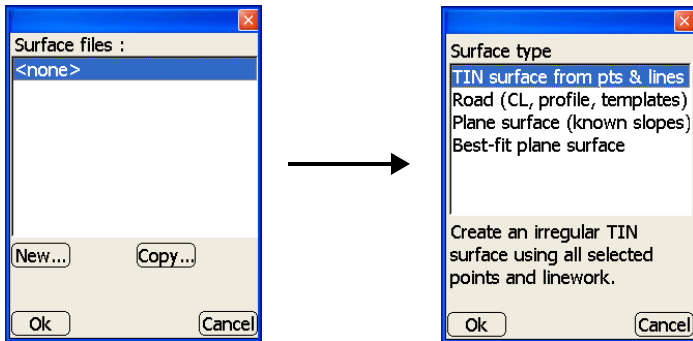

Figure 2-8. Surface Files Dialog Box
2. Press **Data ▶ Surface ▶ [none> or file name]**. On the *surface files* dialog box, press **New** to create a design surface file, or press **Edit** to change an existing design surface file (Figure 2-8).
3. On the *Surface type* dialog box, select *TIN surface from pts & lines* and press **Ok** (Figure 2-8).